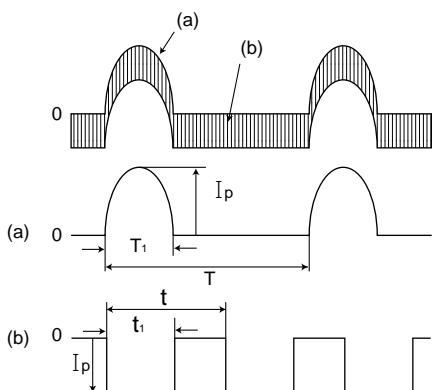

Fig. 2-17
①		$I_{rms} = \frac{I_P}{\sqrt{2}}$
②		$I_{rms} = I_P \sqrt{\frac{T_1}{2T}}$
③		$I_{rms} = I_P \sqrt{\frac{T_1}{T}}$
④		$I_{rms} = I_P \sqrt{\frac{T_1}{3T}}$
Effective ripple value is calculated from the wave form of ripple, which ripple current of high frequency switching (IH) is superposed upon ripple current of commercial frequency (IL) (as in Figure 2-17), by dividing it into each frequency component.